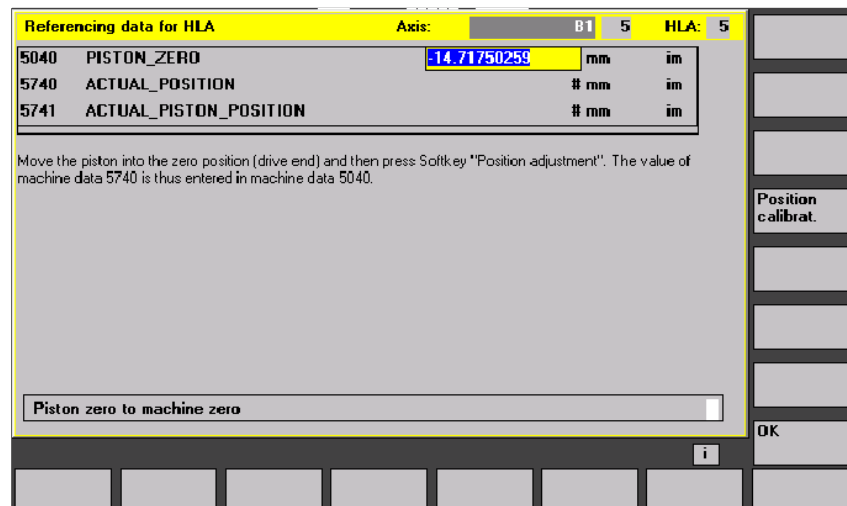

Fig. 3-21 Menu display “Referencing data for HLA”
- Press softkey “Position adjust.” (see Fig. 3-21) to transfer the value set in MD 5740: ACTUAL_POSITION to MD 5040: PISTON_ZERO.